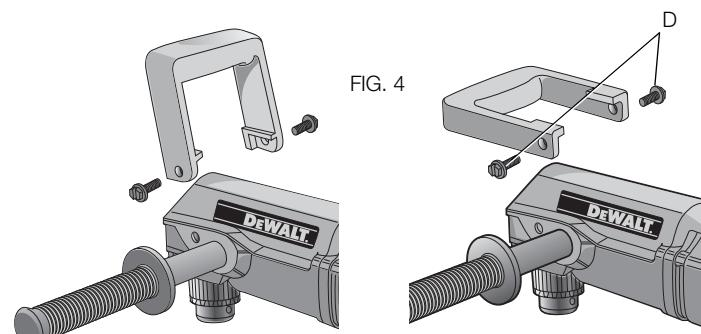

FIG. 4
- D. Bail handle bolts (Fig. 4)
Assembling Bail Handle (Fig. 4, 5, 6)
A bail handle is provided for carrying the tool and for use as an additional handle. While using the bail handle, make sure the drill is properly braced, as in Figure 6. Assemble the bail handle in either of the positions shown in Figure 4. When changing the location of the bail handle from one position to the other, it is necessary to remove completely the two bolts securing it. These bolts can be loosened or tightened with a quarter or other suitable coin as shown in Figure 5. Turn the handle around (1/2 turn) and reinstall as desired. Always operate this tool with the bail handle installed.